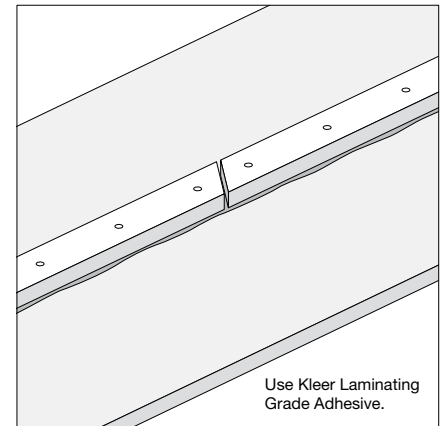

Fig. 8
- For best results, use Kleer Laminating Grade Adhesive when face gluing Kleer to Kleer (lamination) (**Fig. 8**). If Kleer Cellular PVC Cement is used when face gluing Kleer to Kleer (lamination), lightly sand each face to ensure proper adhesion.